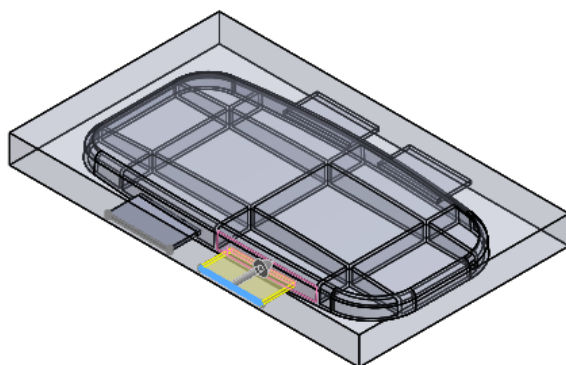

Figure 21-63 Base feature of *Insert1*
- i. Using the top-down approach, create the inserts, refer to Figures 21-63 and 21-64.
6. Extrude the sketch of each slot using contour selection up to the inner front curved face of the cover. Figure 21-63 shows the assembly with the preview of base feature being extruded using contour selection.